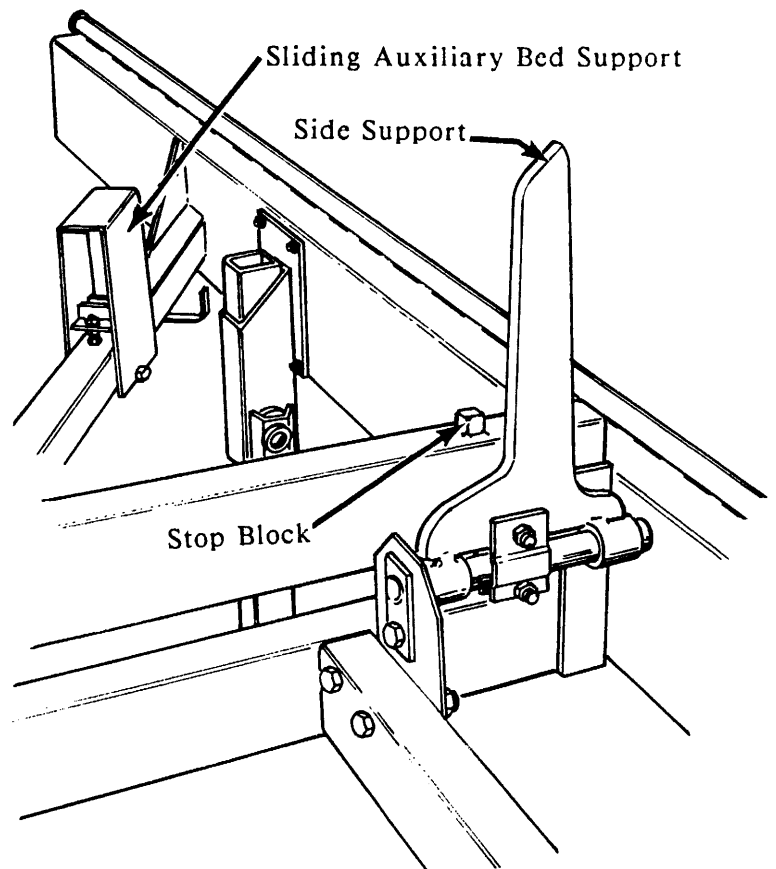
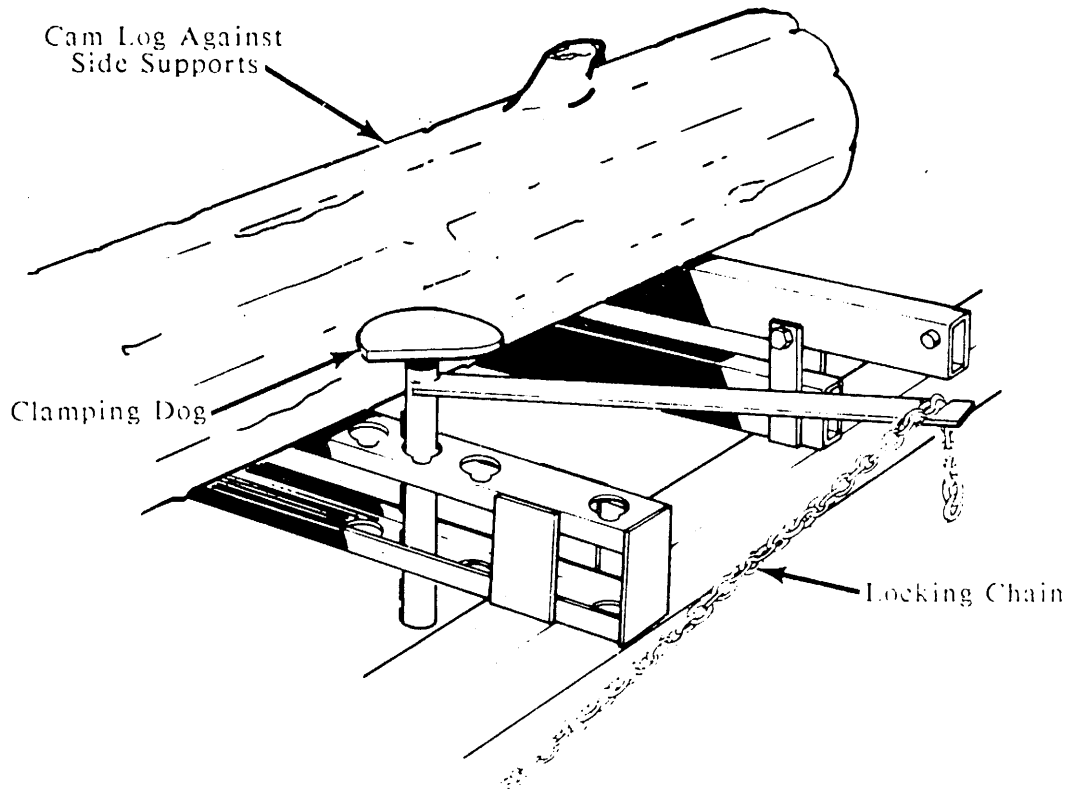

FIGURE 3
FIGURE 4
When using the optional winch, always have the side supports at their highest position (See Figure 3). Only two side supports should be used when the log is first being clamped so that it seats firmly against two points closest to the ends of the log. Center the log at the base of the ramps. Feed the winch cable through the cable guides to the idle pulley found just right of the clamping dog receiver. Route the cable through the idle pulley and out to the log to be loaded. Let out enough cable to wrap over the top of the log and come back underneath the log to secure the cable to the locking dog receiver. When winding in loose cable, keep tension on cable with free hand to avoid snarling and pinching the cable when it has load on it. Never stand behind the log while being winched to avoid injury as the log would roll back down ramps if cable broke. Winch the log up the ramps and onto bed of the mill. Leave the cable around the log until it is firmly secured with the clamping dog. Logs may also be loaded with a tractor or other equipment specifically designed for that purpose. Sliding auxiliary bed supports are located on the diagonal supports in the front and rear of the main frame to support logs or boards that tend to sag on the ends. **Caution:** It is easy to pinch your fingers between log and auxiliary supports.
4. Secure log to desired angular position by placing the clamping dog in the closest possible hole to the log with the handle to the right. The arm of the clamping dog should be swung to the operator's left until the cam forces the log firmly against side supports. Place the locking chain into the slot of the clamping dog arm (See Figure 4). The slots on the side of the post allow you to set the height of the clamping dog low enough to clear the saw carriage. The clamping dog is typically required only when the log is resting on a rounded portion. Once the log is resting on a flat, the weight of the log is usually sufficient to hold it in position. When a square cant is achieved, the side supports may be lowered and the cant positioned against the welded stop blocks for maximum throat capacity (Refer to Figure 3).